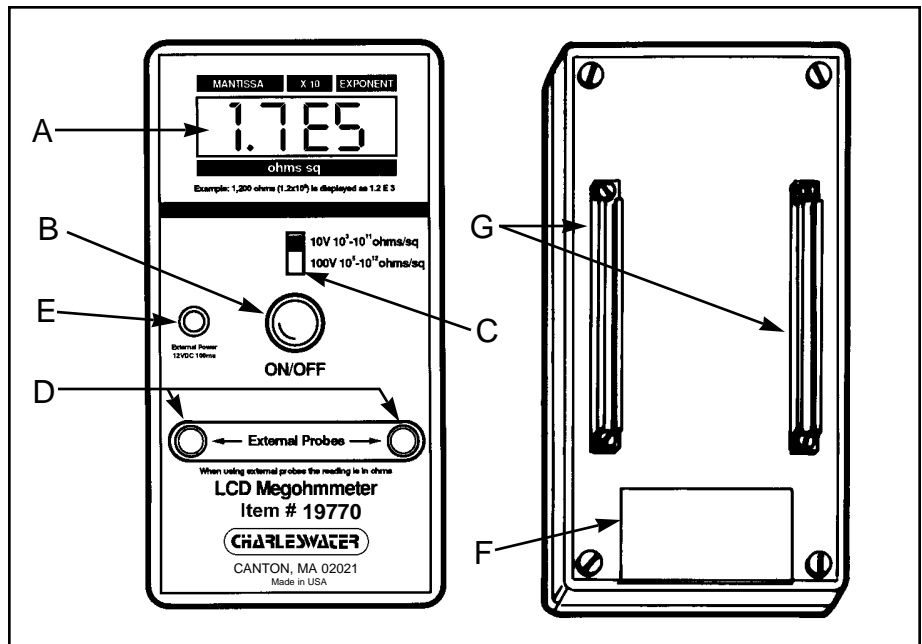

Figure 3. Features of the Digital Surface Resistance/Resistivity Meter
**A. Scale:** 1/2" high digital LCD display provides easy to read resistivity/resistance measurements. Values are expressed with a mantissa and exponent power as shown in Figure 3. Display shows  $1.7 \times 10^5$  Ohms/sq.